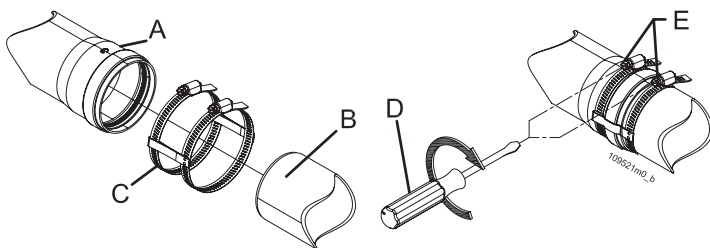

Figure 5-18 - Fixing the exhaust and intake pipes
**⚠ ATTENTION !!! Mechanically secure the joints between the various component elements of the exhaust and intake pipe, through the use of fixing systems or equivalent systems. See figure 5-18.**